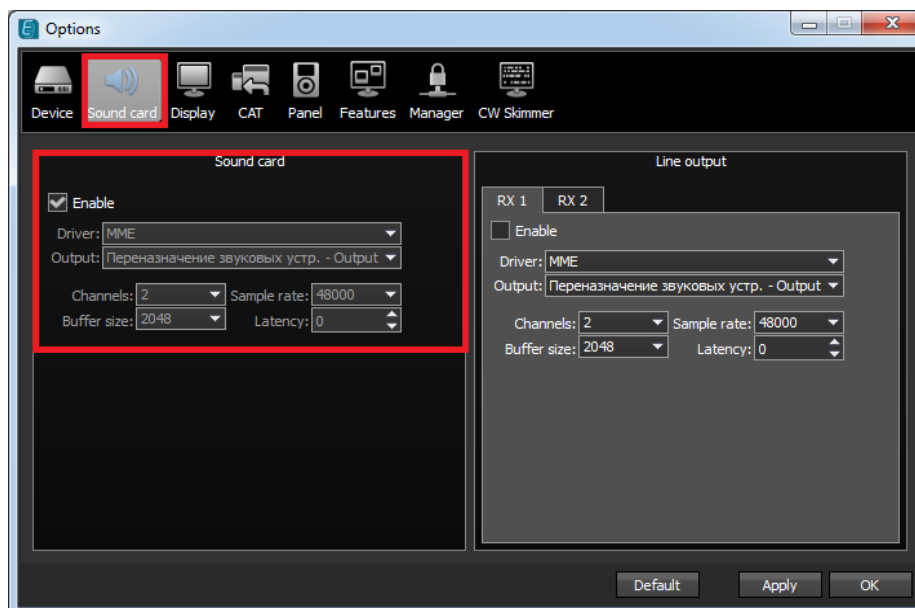

Figure 4.3 – Transceiver's settings
6. In the Sound Card menu choose Driver and select input and output devices and click the check box Enable (see figure 4.3);